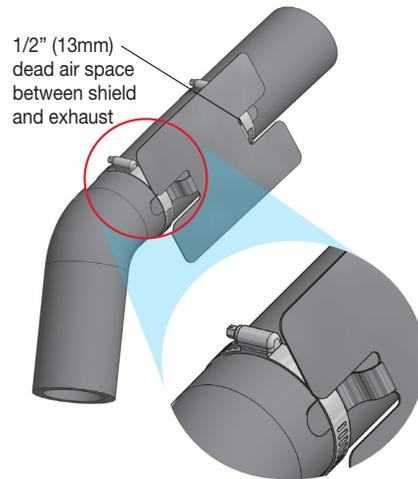

*Fig. 28*
1. Install the heat shield above the air spring assembly on the inside pipe as shown in Fig. 28.